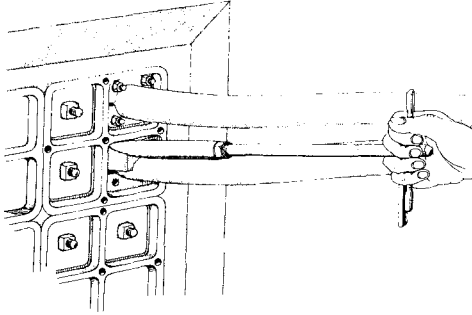

Fig. 10—Removing Split Rubber Plug
(6) Slide the wrench back against the handle of the extractor. Gripping both the wrench and the extractor, pull gently on the extractor while shaking the cable slightly until the plug separates at the cut and starts to come out. As pulling is continued, the rubber will stretch and unwrap from the cable (Fig. 10).